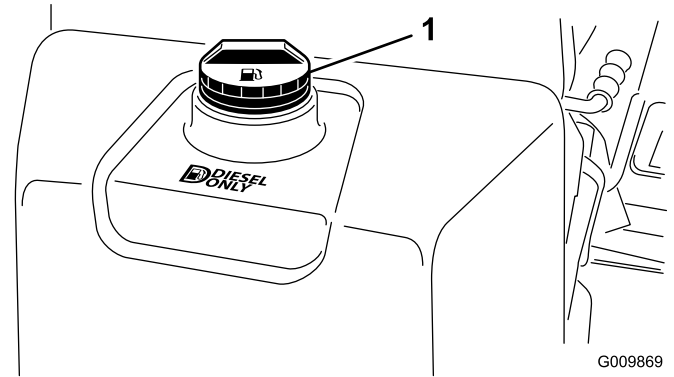

Figure 26
3. Remove the cap from the fuel tank (Figure 26).